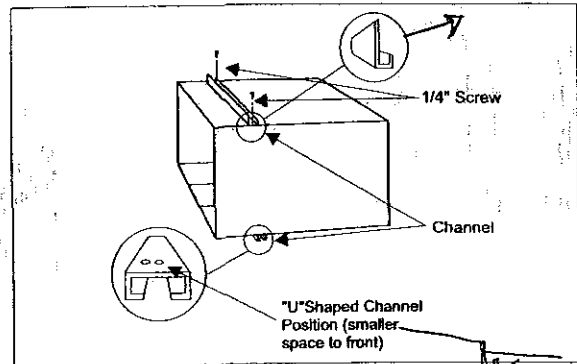

Fig 6
A. "L" Shaped Top Channel: Install the "L" shaped top channel to the cabinet as shown in (Fig 6) using (4) 1/4" screws
B "U" shaped Bottom Channel: Install the "U" shaped bottom channel to the cabinet as shown in (Fig 6) using (4) 1/4" screws